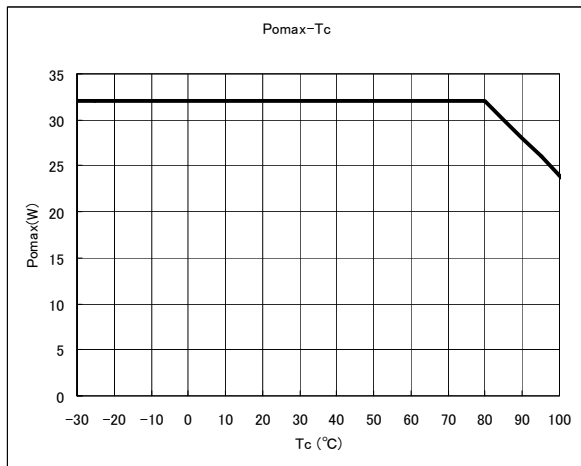
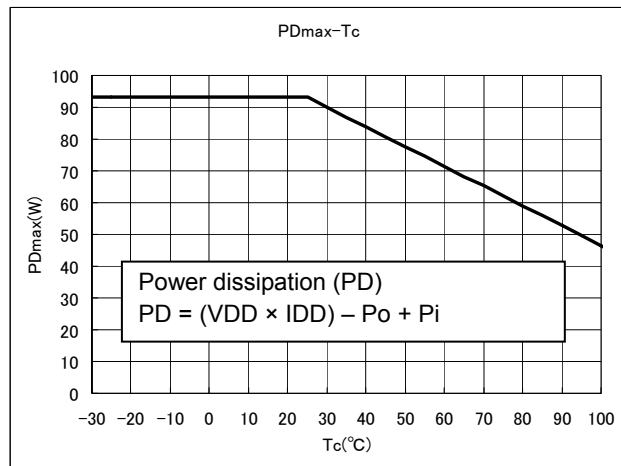

Figure 1 Pomax-Tc
Figure 2 PDmax-Tc
Note 2: The output power rating satisfies the range shown in Figures 1 and 2 according to the operating case temperature. Ensure that the device should be operated within the specified operating range. The figures below indicate the output power obtained 2 seconds after P_o is generated.
*When the device is used at T_c = 100°C, the output power rating is 24 W as shown in Figure 1. When the power dissipation at T_c = 100°C exceeds the rating shown in Figure 2, the output derating is required to limit the dissipation within the specified range.
Note 5: The output power is intended to follow the rating provided in Figure 1 in Note 2.